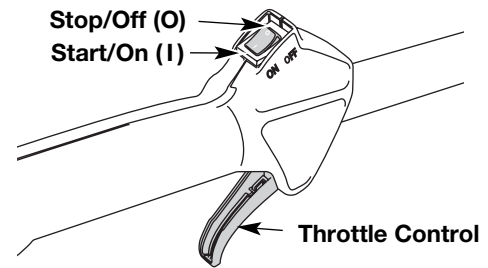

Fig. 3
NOTE: There is no need to turn the unit on. The On/Off Stop Control is in the ON (I) position at all times (Fig. 3).
2. Press and hold On/Off Stop Control in the OFF (O) position until engine comes to a complete stop (Fig. 3).